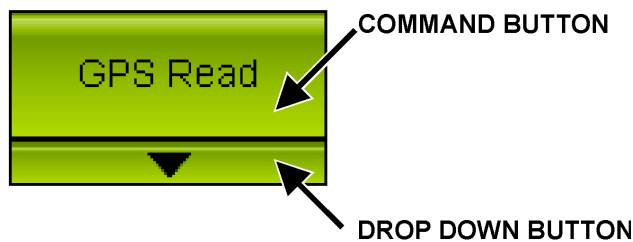

FIGURE 85. Radio Command Button
The **Radio Command** buttons, shown in Figure 85, allow the user to send a radio command to specific user or group. The button is composed of two (2) individual buttons; the command button and a drop down button.